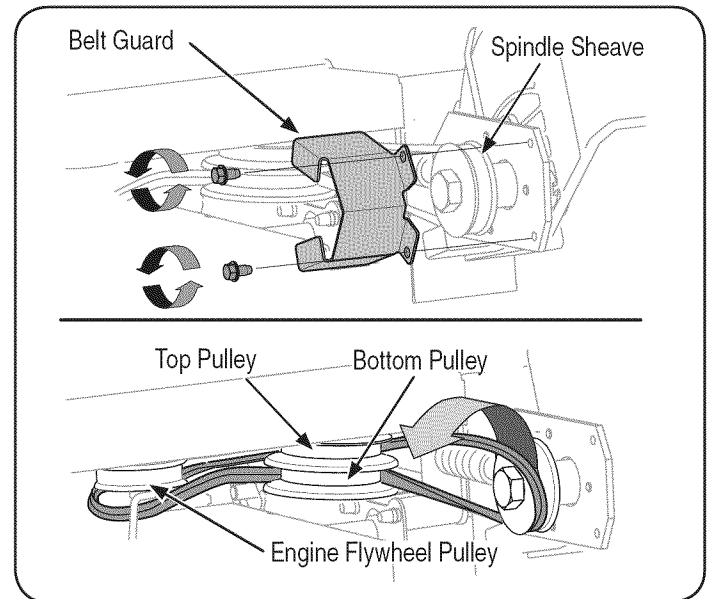

Figure 12
3. Remove the spindle sheaves belt guard by removing the two self-tapping screws which secure it to the blade plate assembly. See Figure 12.
4. Carefully remove the belt from off of the pulleys, again making sure to note the orientation of the belt. Discard the belt. See Figure 12.
NOTE: Make certain that the "V" side of the belt is seated into the top pulley and the flat side of the belt is seated into the bottom pulley. See Figure 12.